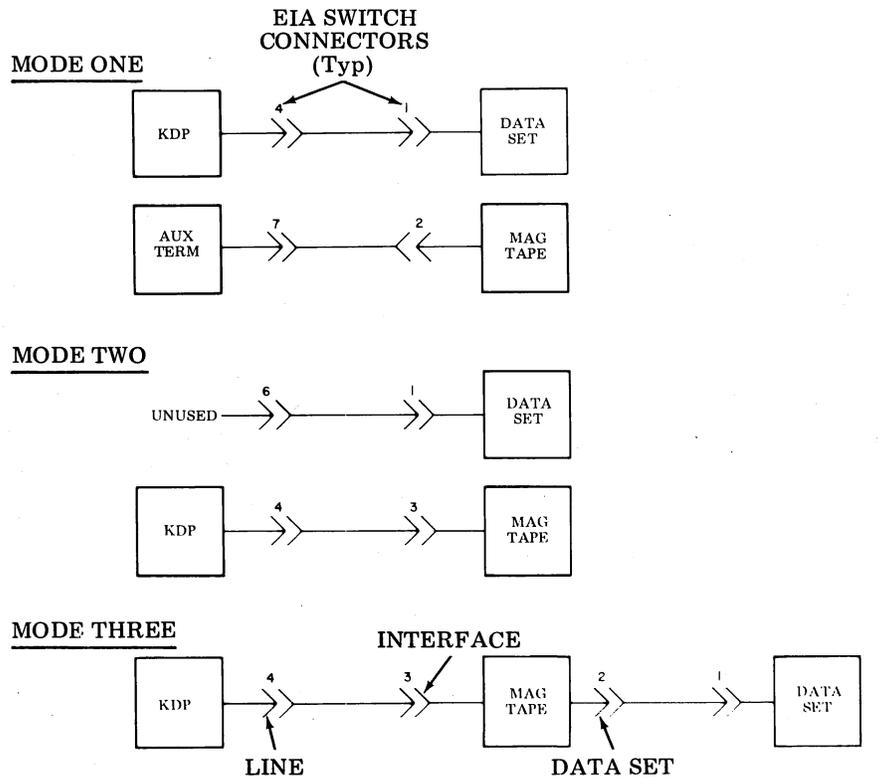

Fig. 10—Magnetic Tape Terminal With DATASPEED 40 KDP
6.05 The DATASPEED 40 Keyboard Display Printer (KDP) used with 4210 MT Terminal is shown in diagram form in Fig. 10. Mode one provides a KDP connection to the data set and the data set connector of the MT connected to an optional auxiliary terminal with interface connections arranged for bi-directional data transfer.
6.08 If printed copy is not required, a KD may be substituted for the KDP. The KDP should be assigned to switch assembly connector 4, and the interface connector on the MT to switch connector 3 (Fig. 10).